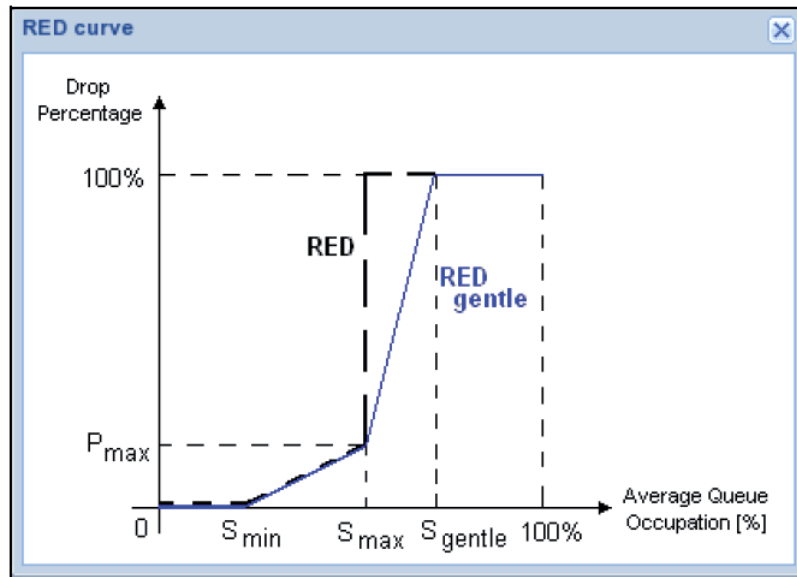

Fig.14 - Red curve
- WRed: Weighted Random early Discard: with this policy, before the Queue is full some incoming packets are dropped randomly. First are dropped the packets coloured in yellow and then are dropped the packet coloured in green, see Fig.14.
Once WRed is enabled the threshold of S_{min} , S_{max} and P_{max} for the Green and Yellow frames have to be set. The value set the points of the curve shown in Fig.14. There are some predetermined profiles to be enabled: